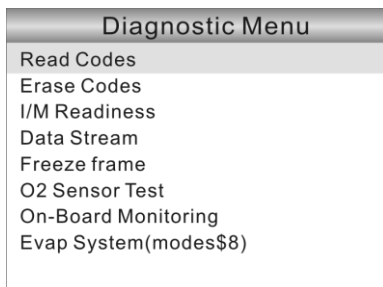

Figure 5-9
7) View a summary of system status (MIL status, DTC counts, Monitor status) on screen. Press [OK], a screen similar to Figure 5-9 will appear: